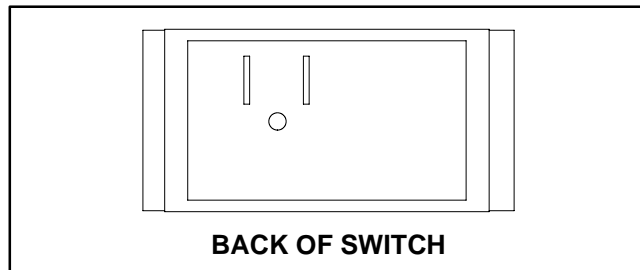

Figure 14
3. The switch terminals are marked as shown in Figure 14. In the ON position, continuity should exist between the two terminals. In the OFF position, there should be no continuity between the switch terminals.